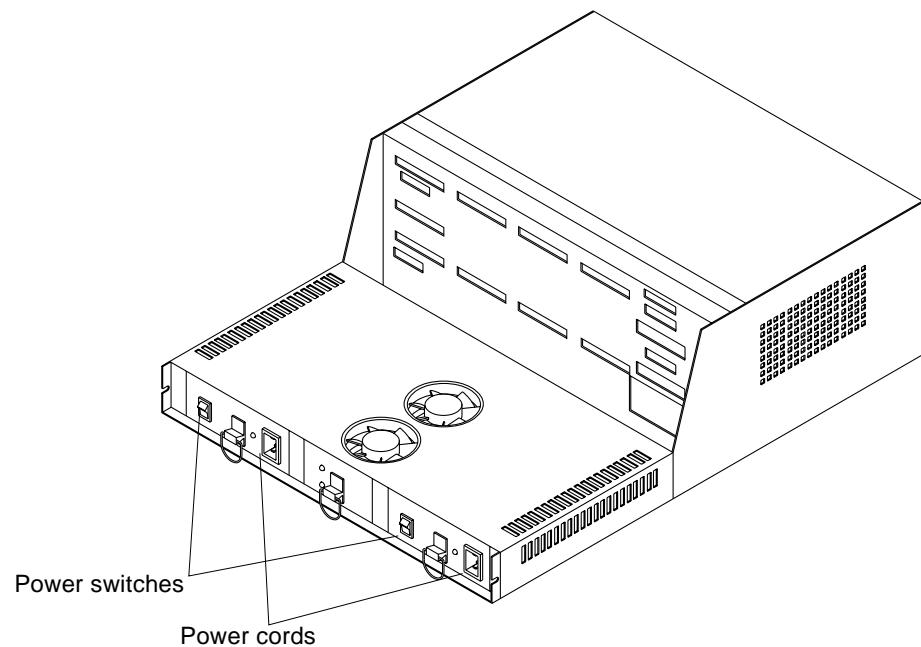

FIGURE 1-19 Power Switch and Power Cord Locations
5. Turn off both power switches and connect the power cords (FIGURE 1-19).
1. **Turn both power switches on the back of the controller module to the On position (FIGURE 1-19).**